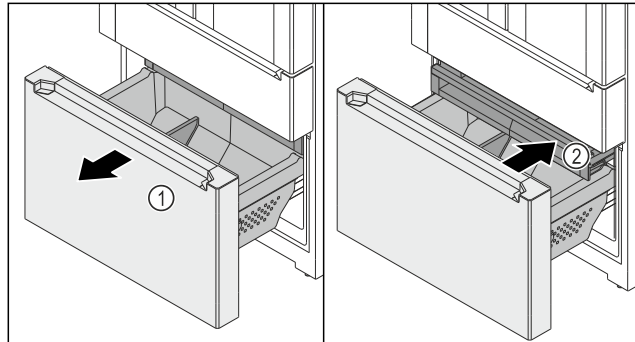

Fig. 151
- ▶ Pull the telescopic unit Fig. 151 (1) out as far as it will go.
- ▶ Drawer Fig. 151 (2) is automatically pulled out.
- ▶ Push in the drawer Fig. 151 (2).